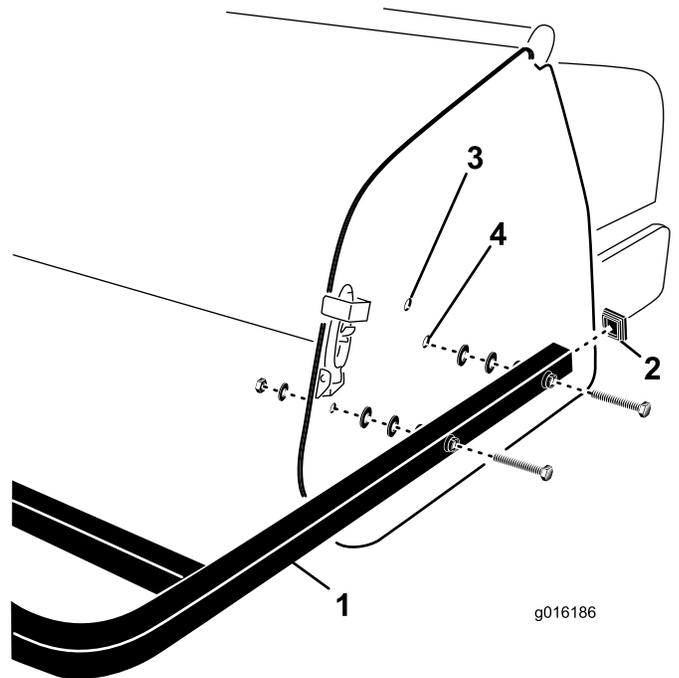

Figure 28
1. Insert the end caps into the ends of the rear guard tubes (Figure 28).
2. Align the holes in the rear guard mounting tubes with the holes in the aerator side plates (Figure 28).
- Secure the guard mounting tubes to the side plates with (4) screws, flat washers and nuts (Figure 28).